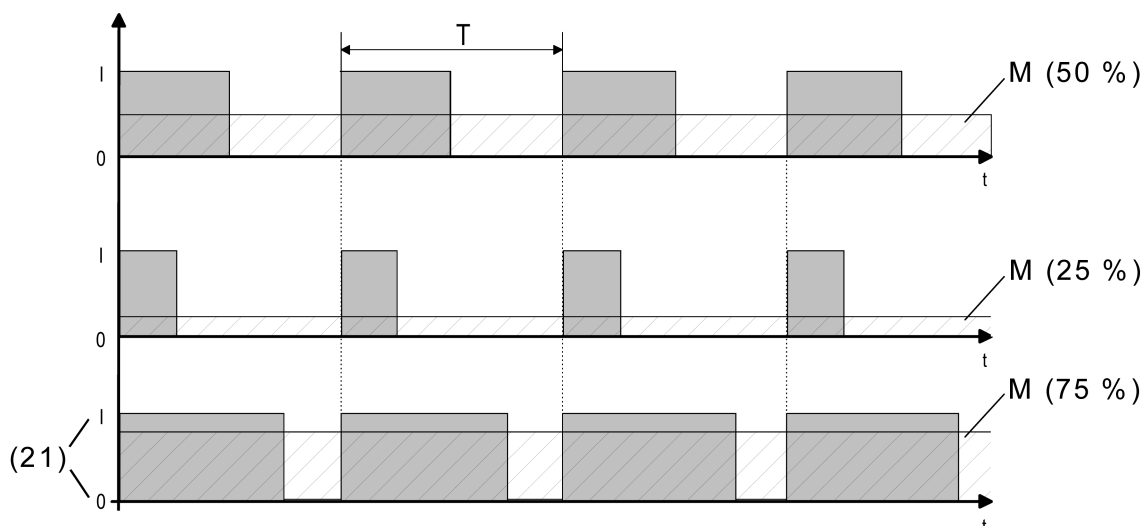

Figure 53: Pulse-width modulation of a valve output signal
When the room actuator is to set a constant command value or a constant nominal valve position value configured in the ETS for a valve output, it modulates the output signal using the switch-on pulse width. The mean value (M) of the output signal resulting from this modulation is a measure for the averaged valve position of the control valve, taking into account the cycle time (T) which can be set in the actuator, and thus a reference for the set room temperature (Figure 53).